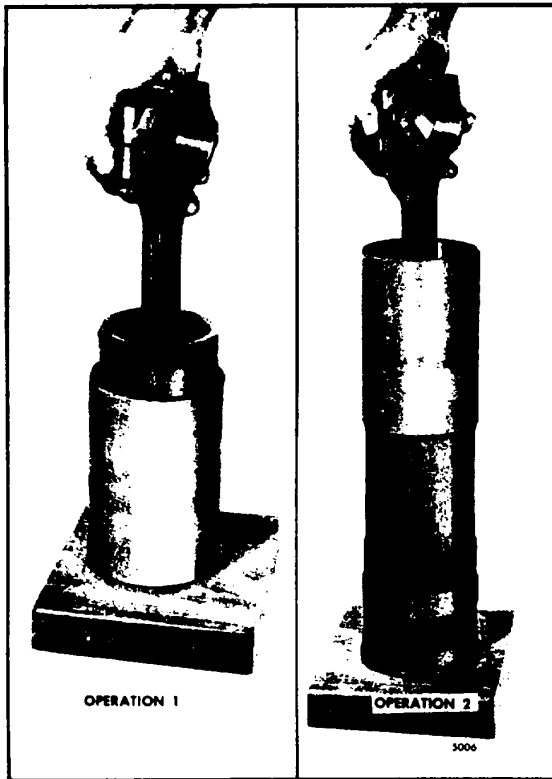

Fig. 6. - Installing Piston and Connecting Rod Assembly in Ring Compressor and Cylinder Liner
4. Start the top of the piston straight into the ring compressor; then, push the piston down until it contacts the wood block (see Operation 1, Fig. 6).
6. Place the ring compressor and the piston and rod assembly on the liner, so the numbers on the rod and cap are aligned with the matchmark on the liner (see Operation 2, Fig. 6).